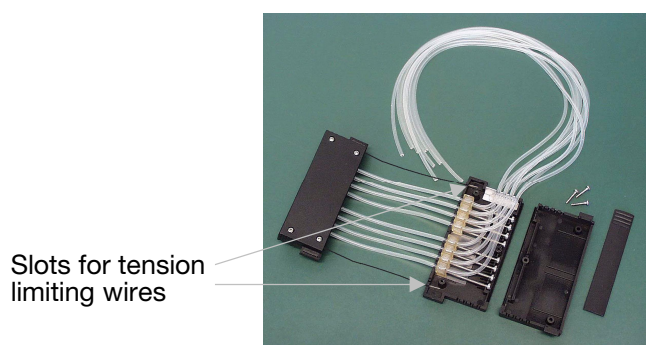

Figure 5-46. Calibration screws fastened
11. Insert the tension limiting wires into their slots into the upper part of the dispensing cassette (Figure 5-46).